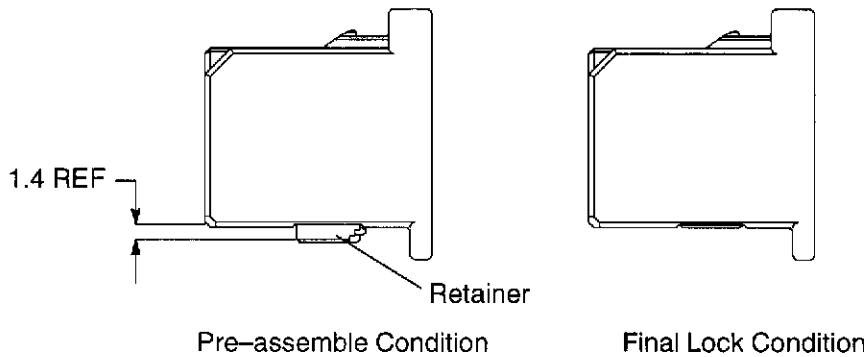

Fig.8
(1) Confirm the retainer is in pre-assembled condition. Fig.8. When the retainer is in final lock condition, it must be unlocked to pre-assembled condition. The contact can not be inserted in final lock condition.